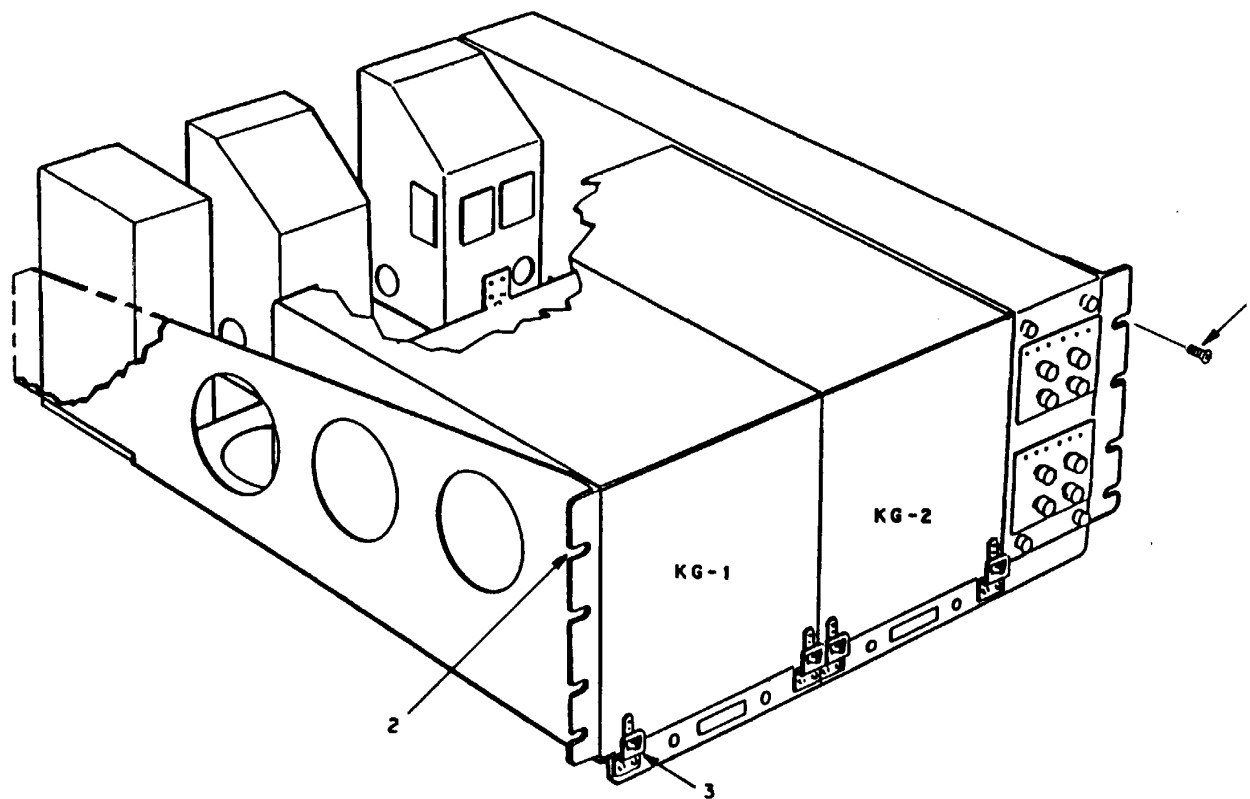

Figure 3-1. FPA Installation Diagram
3-1. FPA INSTALLATION. The FPA can be mounted in a standard 19 inch rack by attaching eight screws (1) through the eight slots (2) on the front of the unit (see Figure 3-1).